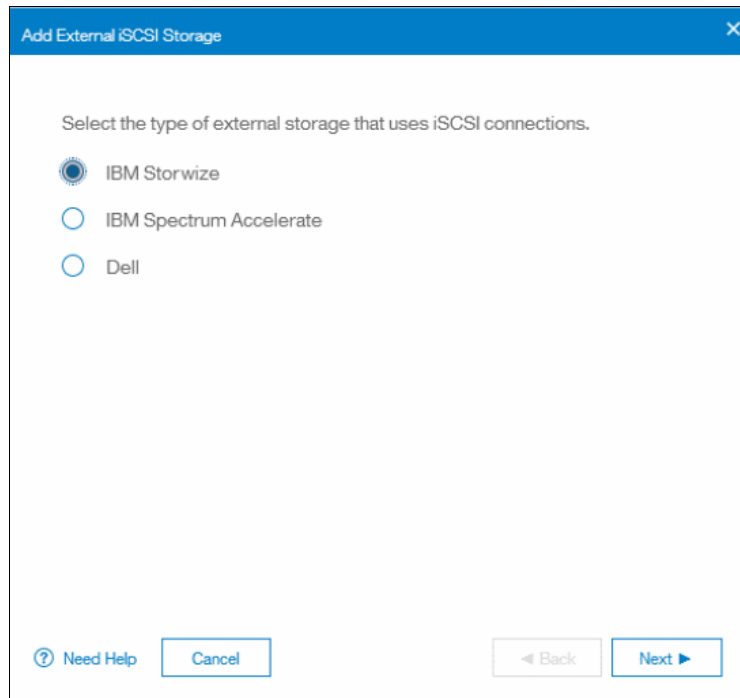

Figure 5-69 Adding an external iSCSI controller: Controller type
7. Select the type of external storage. For this example, the **IBM Storwize** type is chosen. Click **Next**, as shown in Figure 5-69.